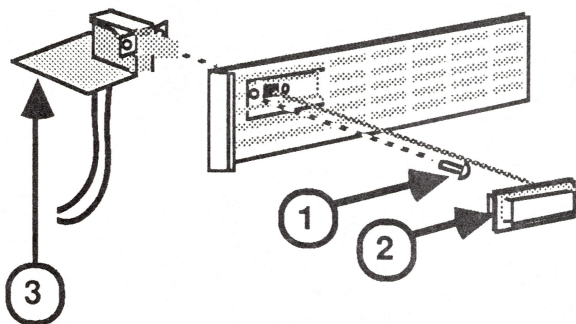

FIGURE 23
- a. Replace the screw (Figure 23, #1) which secures the on/off switch to the plastic bracket. The small switch PCB (Figure 23, #3) is on the bottom as you insert the switch unit into the plastic bracket.
- b. Replace the customer's switch button (Figure 23, #2) on its shaft.